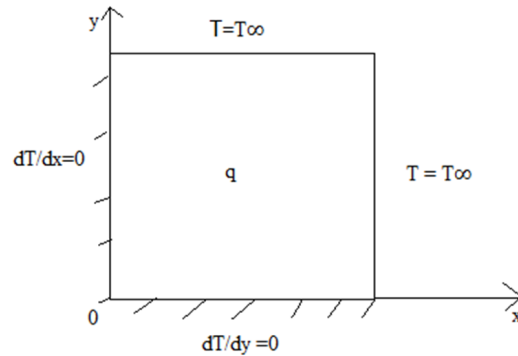

Figure 9
- (b) Find the temperature distribution in a square region with uniform heat generation as shown in Figure 9. Assume that there is no temperature variation in the z-direction. Take $k= 30\text{W/cm}^0\text{c}$, $h=10\text{ watts/cm}^2$, $l = 10\text{cm}$, $T_\infty = 50^\circ\text{C}$, $Q= 100\text{ W/cm}^3$. Consider it a two elemental problem. [7M]